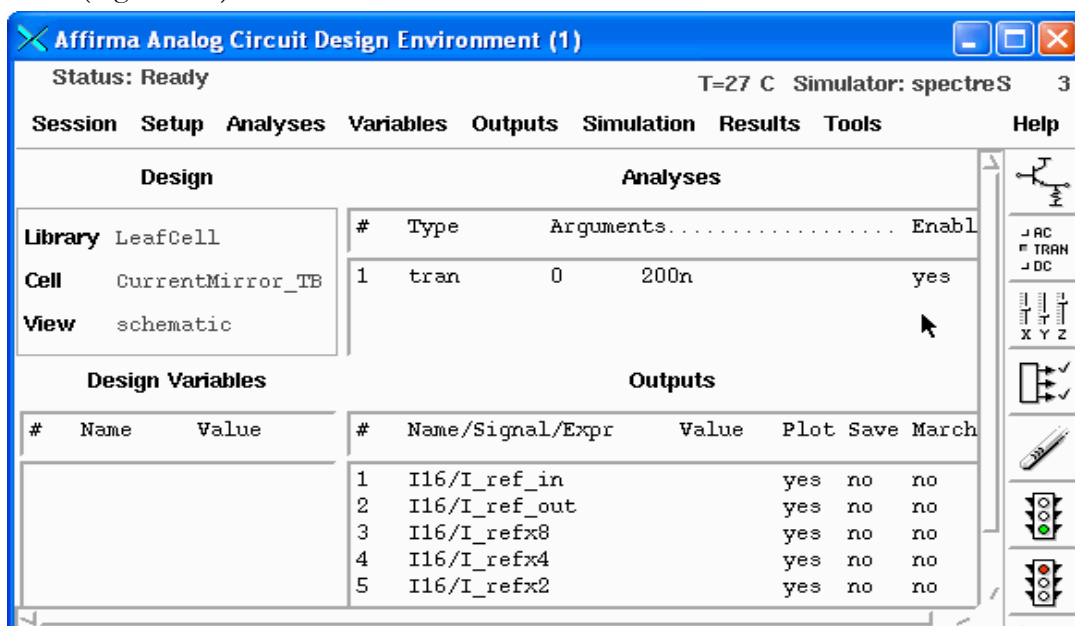

Figure 125: Setting up the Affirma for simulation.
6. Select the input and outputs of the current mirror to be the Outputs...To Be Plotted... (Figure 125).
There is always more than one way to do designs. For this current mirror, you can lay it out in one leaf as in figure125. Can you figure out the input and outputs? Can you also tell which transistor is grounded?